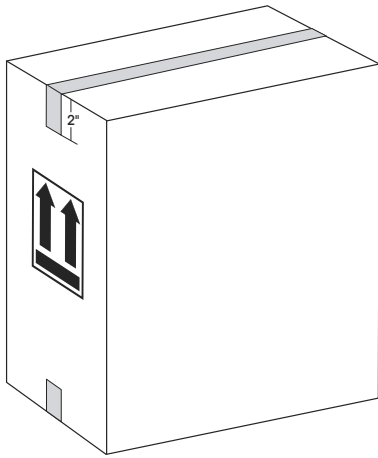

Figure 4
7. Seal top of carton down the center seam where the flaps meet with one strip of 2" wide (3.1 mil) clear tape (Uline model # S-1034). The tape must extend at least 2" over each end of the carton. (See Figure 4)